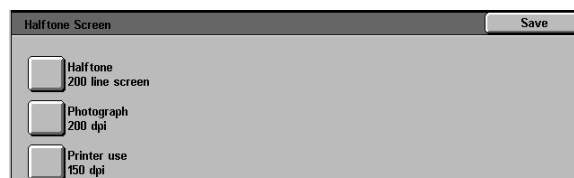

Figure 59: Halftone screen
- Touch the **Halftone Screen** button to access the Halftone Screen, as illustrated in Figure 59.